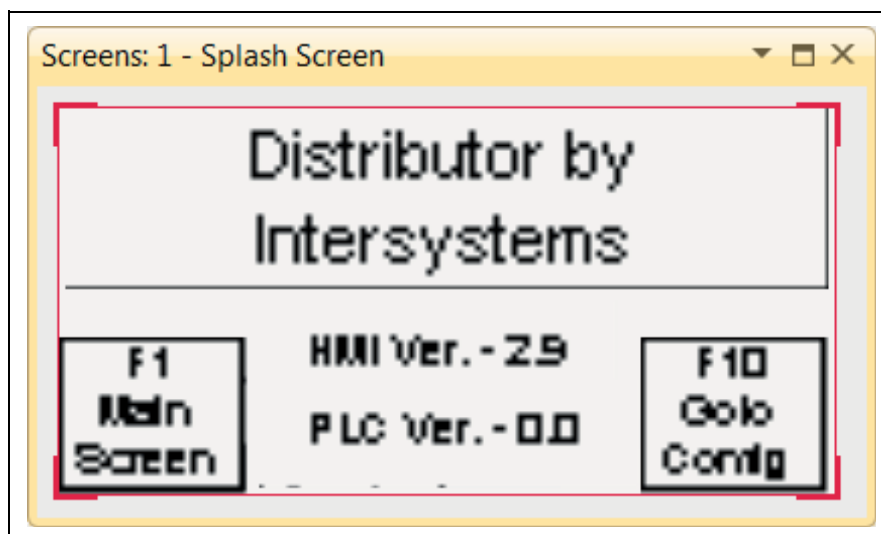

Figure 5A
1. When powering up the distributor the following screen will appear. (See Figure 5A.)